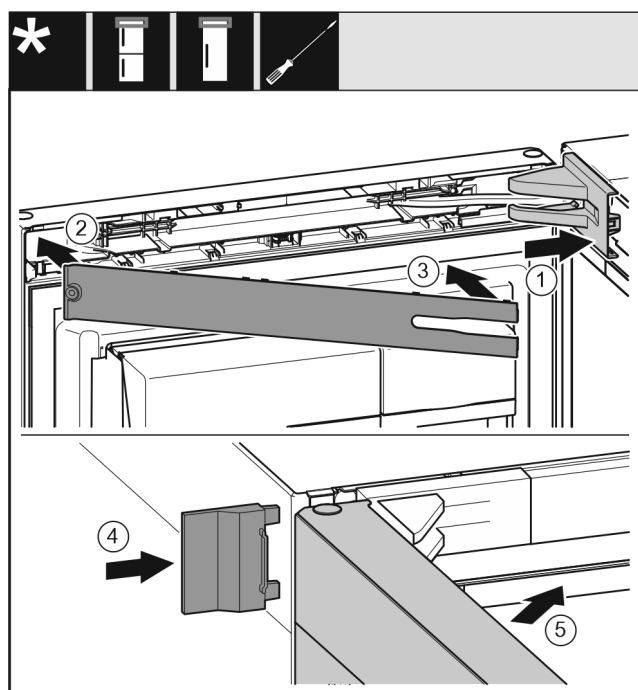

Fig. 21
- ▶ Position the bearing bracket cover and engage it. If necessary push it apart carefully. Fig. 21 (1)
- ▶ Place on the panel. Fig. 21 (2)
- ▶ Swing in the panel and latch it into place. Fig. 21 (3)
- ▶ Slide on the outer cover. Fig. 21 (4)
- ▶ Close the upper door. Fig. 21 (5)